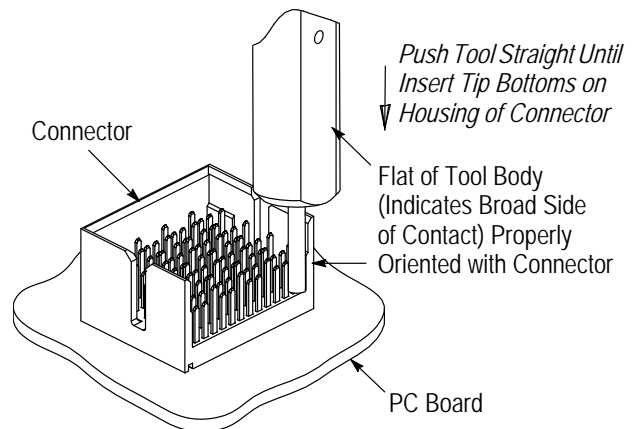

Figure 3
4. Holding the tool body so that the insert tip is perpendicular to the connector and the flat (which indicates the broad side of the contact) is properly oriented with the connector, push the tool straight until the insert tip bottoms on the housing of the connector. Refer to Figure 3.